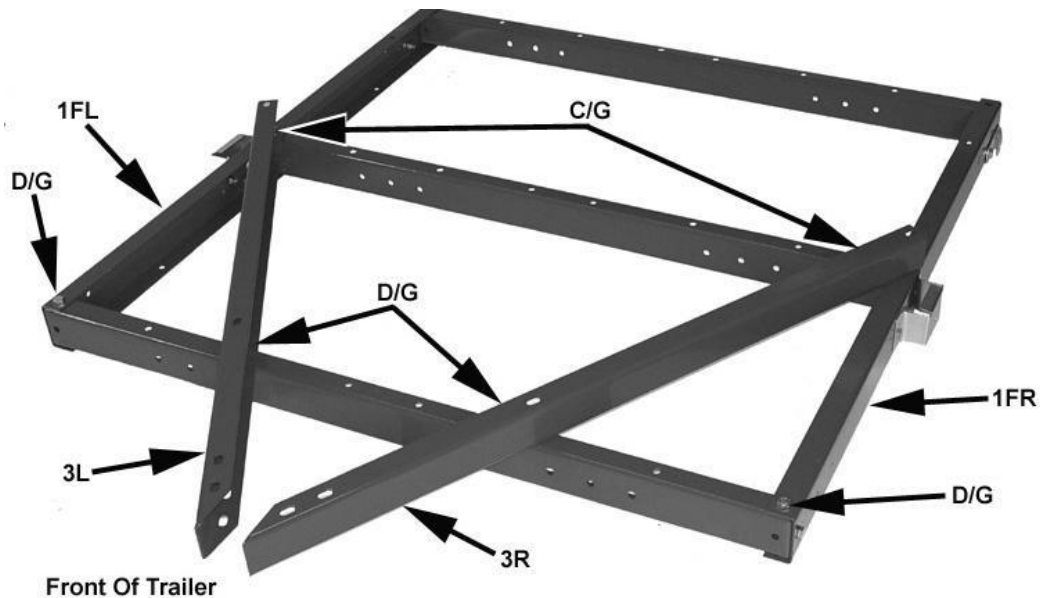

Figure 2-1
2. Install M10 x 20 bolts (D) and M10 nylon lock nuts (G) to connect the side frame rails to front cross member.
4. Connect left and right connecting rails to front cross member with M10 x 20 bolts (D) and M10 nylon lock nuts (G).
5. At the rear of the connecting rails, install M10 x 30 bolts (C) down through connecting rails, side frame rails and center cross member. Install M10 nylon locknuts (G) on bolts. See figure 2-1